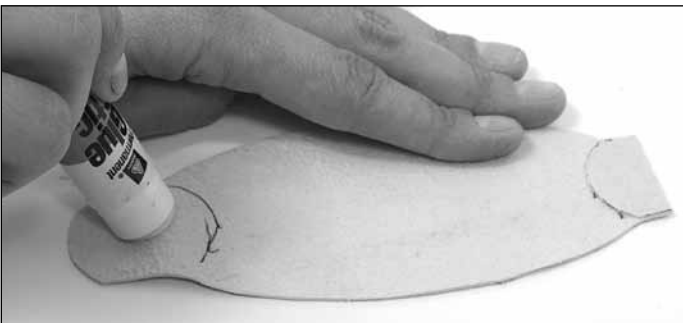

Figure 25
2. Fold over each end approximately 3/4" and mark where the overlap ends. Apply glue stick between the mark and the end. Fold over the end and press firmly. Repeat on the other side (Figure 25). Cut a small hole in each end with scissors or another tool.